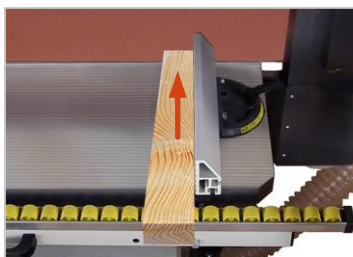
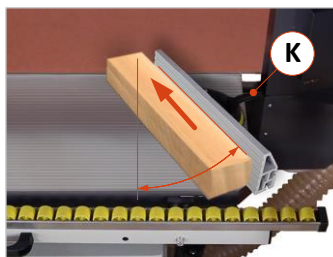

Figure 37: Sanding at right angles
Figure 38: Sanding mitres
- If necessary, loosen the clamping lever (K) and set a mitre angle at the fence (see ⇒ Figure 38).
- Feed the workpiece to the sanding belt and sand it (see arrow direction in ⇒ Figure 37 / ⇒ Figure 38).
Workpiece surfaces to be machined at an angle that are wider than the sanding belt height cannot be sanded on the mitre fence (see ⇒ Figure 38). With the sanding unit's tilt adjustment of up to 45°, mitres as well as pointed and sharp edges can be sanded without any problems, even on very wide or long workpiece surfaces.
- Switch off the main switch (1) and secure it by locking it.